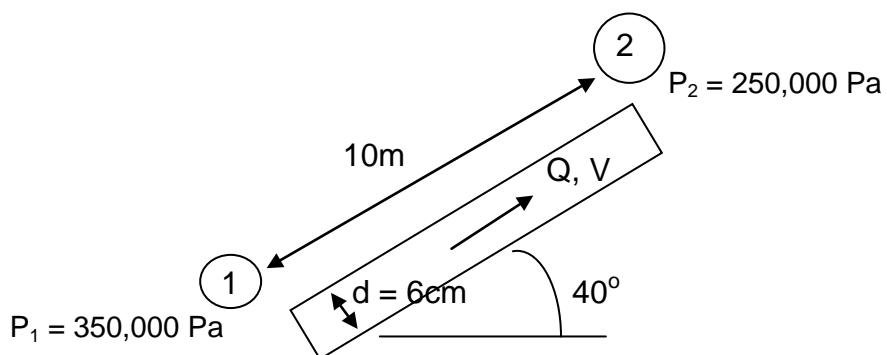

Figure 11: Oil flows upward through the inclined pipe
5. An oil with $\rho = 900 \text{ kg/m}^3$ and $v = 0.0002 \text{ m}^2/\text{s}$ flows upward at a constant velocity through an inclined pipe as shown in Figure 11. The pressure and elevation are known at points 1 and 2, 10 m apart. Assuming steady laminar flow. Calculate: